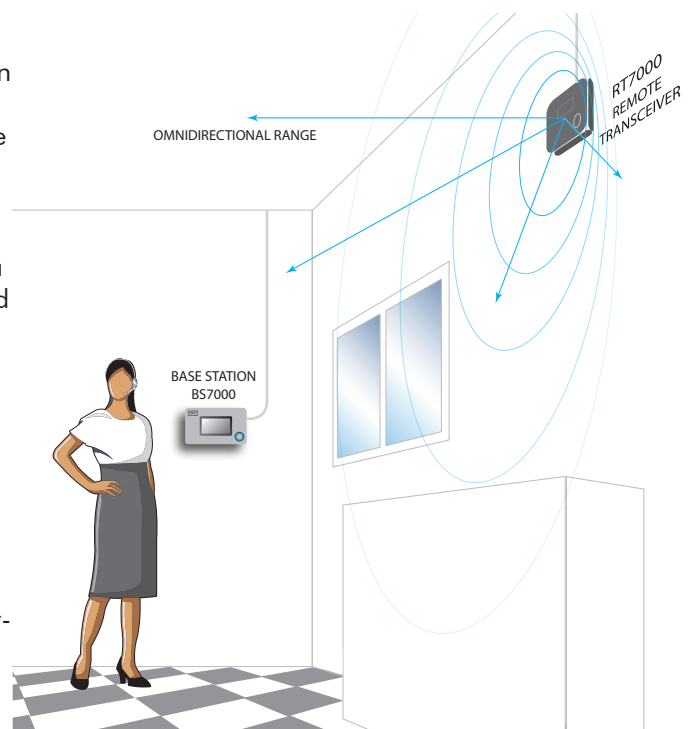

Fig. 4.1
- The RT7000 is omnidirectional, so mount it high in a central location where the headsets are typically used (see Fig. 4.1).